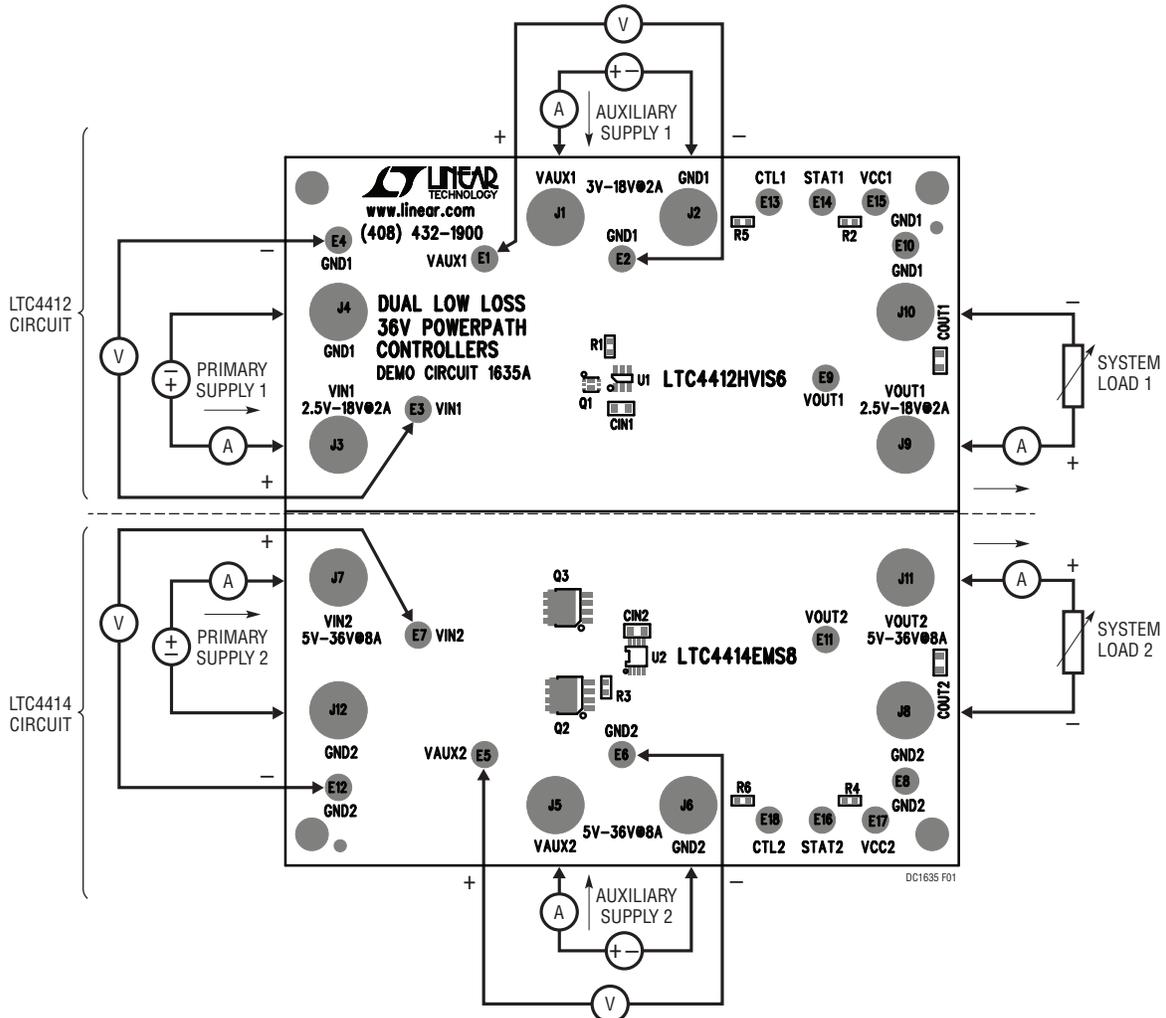

Figure 1. Test Setup of DC1635A
Demonstration circuit 1635A is easy to set up to evaluate the performance of LTC4412 and LTC4414. Refer to Figure 1 for proper measurement equipment setup of both circuits and follow the procedures below.
1. With all power off, connect auxiliary (V_{AUX1}) and primary (V_{IN1}) power supplies capable of 2A each, the system load and meters as shown in Figure 1.
1. With all power off, connect auxiliary (V_{AUX2}) and primary (V_{IN2}) power supplies capable of 8A each, the system load, and meters as shown in Figure 1.